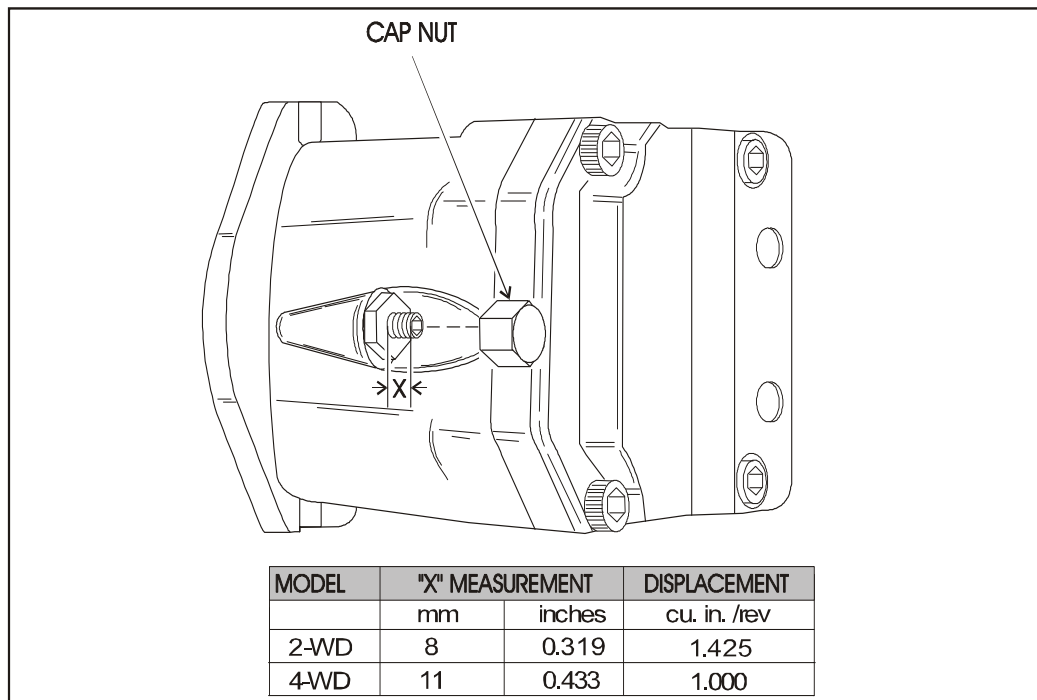

Figure 3-9. Drive Motor Adjustment (Prior to S/N 0300083332)
3. Measure from top of jam nut to the end of adjustment screw. Refer to Figure 3.9, Drive Motor Adjustment Procedure (Prior to S/N 0300083332).